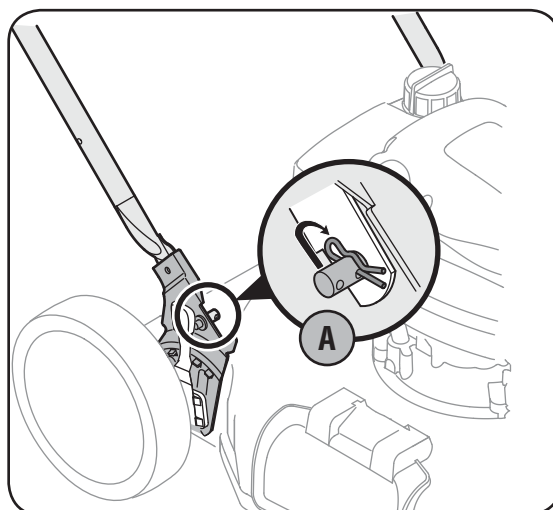

Figure 4-2
2. Locate hairpin clip in one hole on the weld pin on each side of lower handle. Figure 4-2.